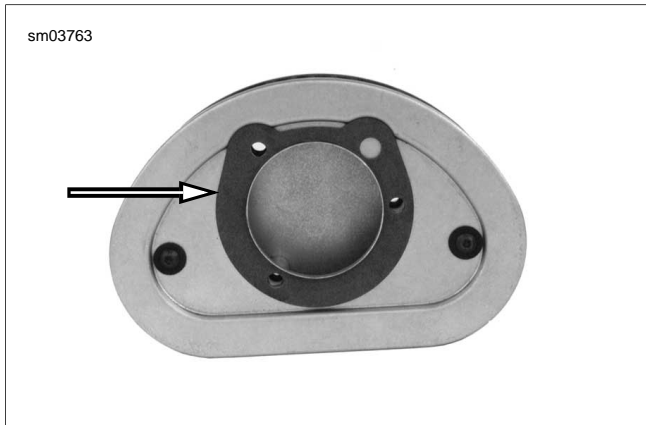

Figure 1-11. Element Gasket
1. See Figure 1-11. Position new gasket on filter element. Make sure gasket holes are aligned with screw holes.